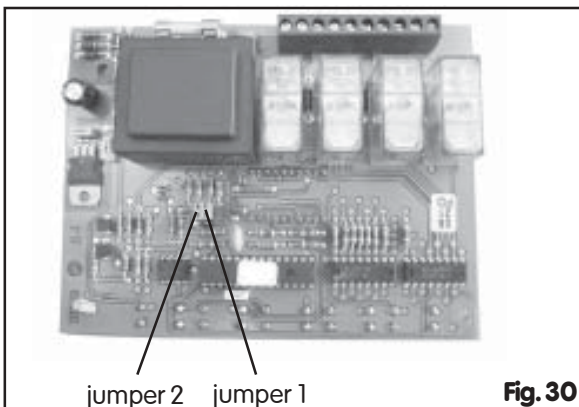

Fig. 30
For tanning units with body cooler you can switch it on / off with the key ③ at the digital timer (Fig.30).